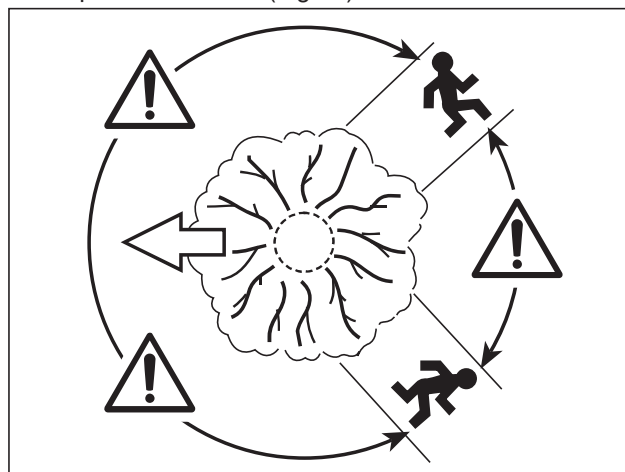

Fig. 20
3. An escape path should be planned and cleared as necessary before cuts are started. The escape path should extend back and diagonally to the rear of the expected line of fall(Fig.20).